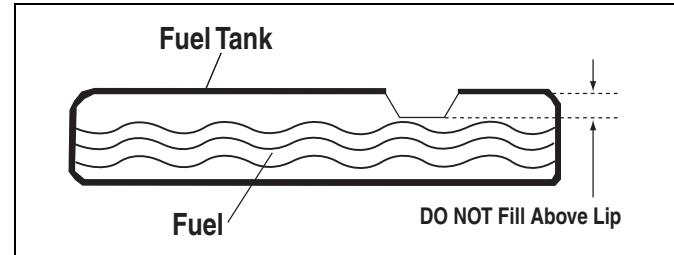

Figure 2-15. Fuel Fill Level
- Slowly add unleaded gasoline to fuel tank. **Be careful not to overfill** (Figure 2-15).